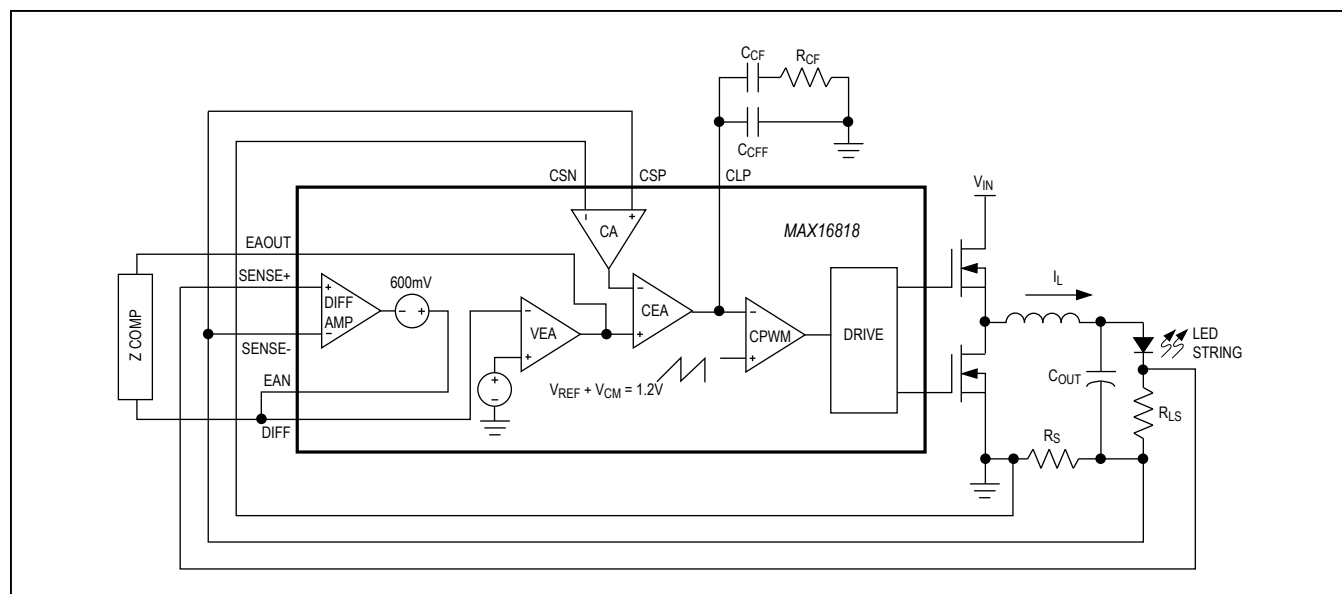

Figure 7. MAX16818 Control Loop
The MAX16818 uses an average-current-mode control scheme to regulate the output current (Figure 7). The main control loop consists of an inner current loop for controlling the inductor current and an outer current loop for regulating the LED current. The inner current loop absorbs the inductor pole reducing the order of the outer current loop to that of a single-pole system. The current loop consists of a current-sense resistor (R_S), a current-sense amplifier (CA), a current-error amplifier (CEA), an oscillator providing the carrier ramp, and a
PWM comparator (CPWM) (Figure 7). The precision CA amplifies the sense voltage across R_S by a factor of 34.5. The inverting input to the CEA senses the CA output. The CEA output is the difference between the voltage-error amplifier output (EAOUT) and the amplified voltage from the CA. The RC compensation network connected to CLP provides external frequency compensation for the CEA. The start of every clock cycle enables the high-side drivers and initiates a PWM on-cycle. Comparator CPWM compares the output voltage from the CEA with a 0V to 2V ramp from the oscillator. The PWM on-cycle terminates when the ramp voltage exceeds the error voltage. Compensation for the outer LED current loop varies based upon the topology.
The MAX16818 has a transconductance current-error amplifier (CEA) with a typical g_m of 550 μ S and 320 μ A output sink- and source-current capability. The current-error amplifier output CLP serves as the inverting input to the PWM comparator. CLP is externally accessible to provide frequency compensation for the inner current loops (Figure 7). Compensate CEA so the inductor current negative slope, which becomes the positive slope to the inverting input of the PWM comparator, is less than the slope of the internally generated voltage ramp (see the *Compensation* section).
The DIFF AMP facilitates remote sensing at the load (Figure 7). It provides true differential LED current (through the R_{LS} sense resistor) sensing while rejecting the common-mode voltage errors due to high-current ground paths. The VEA provides the difference between the differential amplifier output (DIFF) and the desired LED current-sense voltage. The differential amplifier has a bandwidth of 3MHz. The difference between SENSE+ and SENSE- is regulated to 0.6V. Connect SENSE+ to the positive side of the LED current-sense resistor and SENSE- to the negative side of the LED current-sense resistor (which is often PGND).